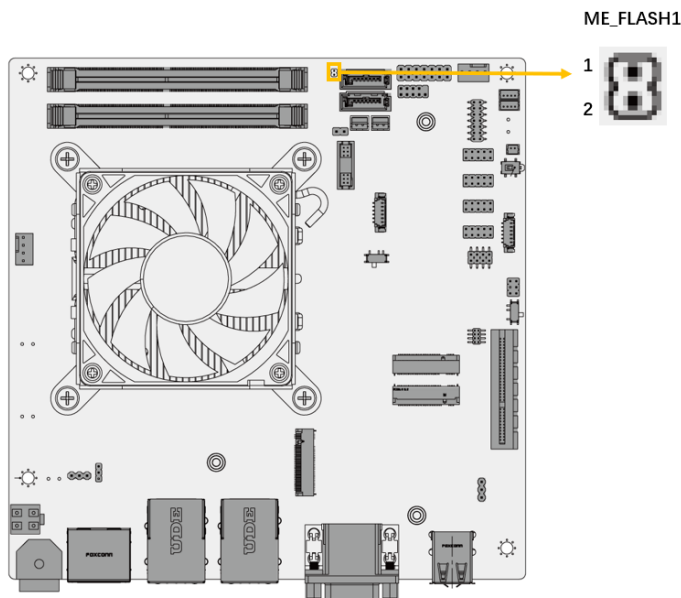

Figure 3-9: Flash Descriptor Security Override Setting Jumper Location
- CN Location:** See **Figure 3-9**